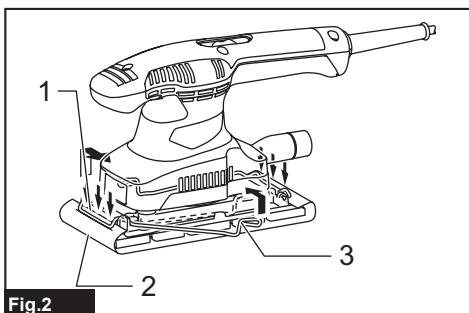

Fig.2
► Fig.2: 1. Clamping part 2. Abrasive paper 3. Clamp lever